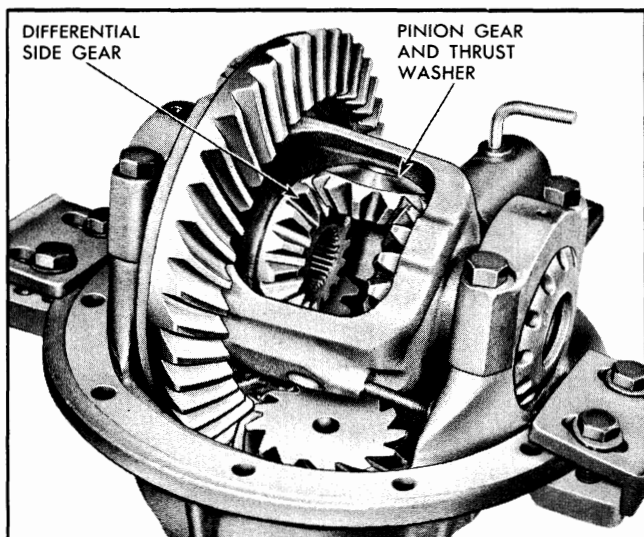

Fig. 4-58 Installing Pinion Gear Thrust Washer
22. Position second pinion gear to receive washer by rotating side gears in opposite direction and insert second washer (Fig. 4-58).